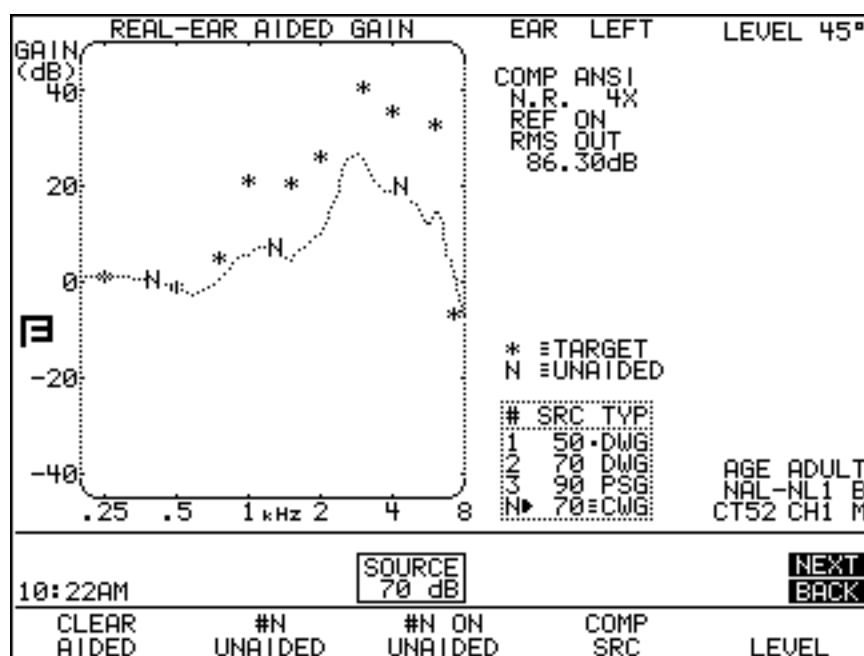

Figure 5.4.1—Unaided response
7. The real-ear unaided response (REUR) will be displayed on the graph as a dotted line marked with the letter N. See Figure 5.4.1. The "N" curve is the unaided response. The stars represent the aided gain target.